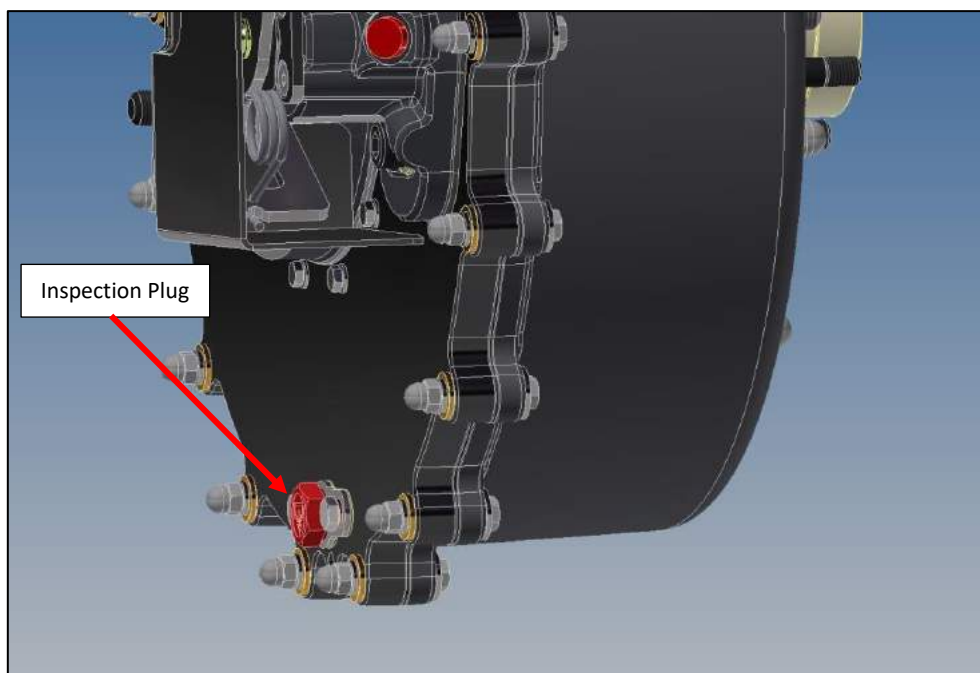

Figure 58
2. Remove the inspection plug from the brake assembly (Figure 58).